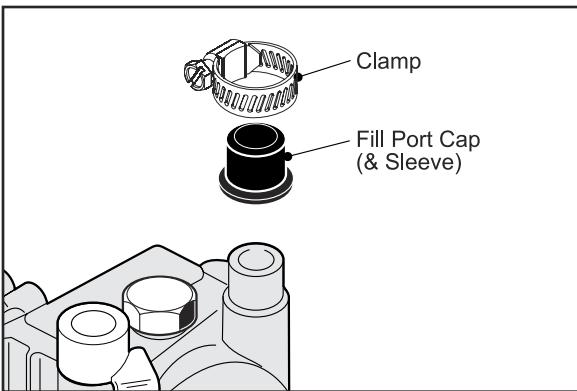

Fig. 50, Oil Port Cap
- Place,–(Cap, Sleeve & Hose Clamp) over the fill port. (Fig. 50)